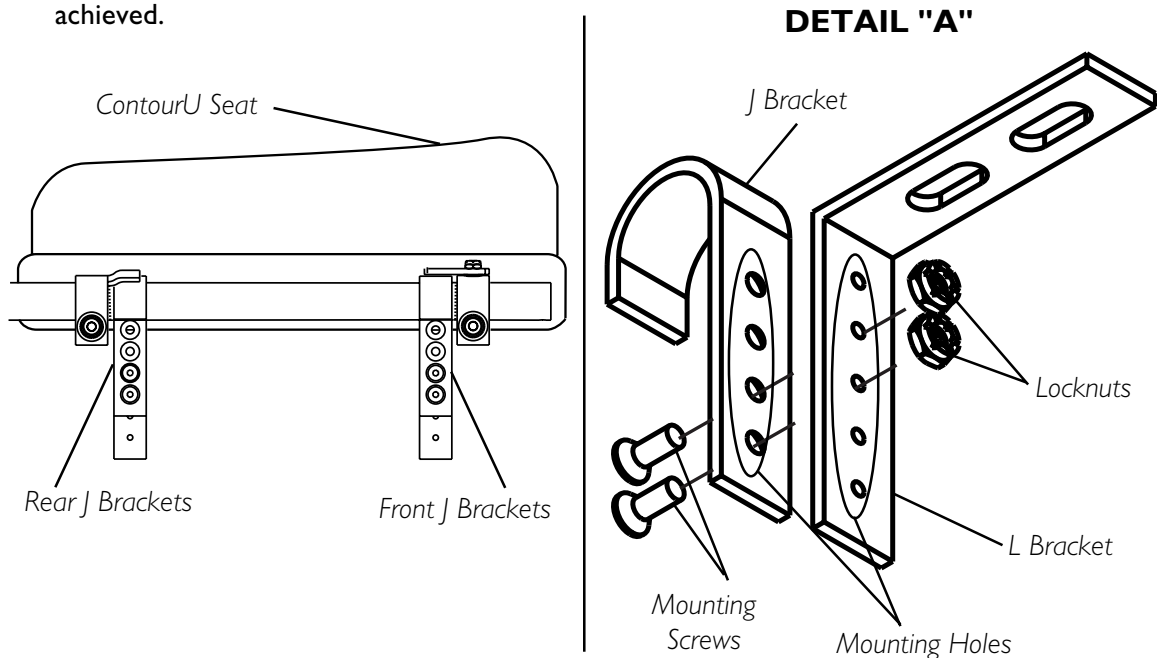

FIGURE 12 - ADJUSTING THE CONTOUR U SEATING SYSTEM SEAT ANGLE
ADJUSTING THE CONTOUR U SEATING SYSTEM SEAT ANGLE (FIGURE 12)
4. Remove the two (2) mounting screws and locknuts that secure the J bracket to the L bracket as shown in DETAIL "A" of FIGURE 12.
5. Align two (2) mounting holes of the J bracket with two (2) mounting holes of the L bracket to acquire the desired depth.
6. Reinstall the two (2) mounting screws and locknuts that secure the J bracket to the L bracket. Securely tighten.